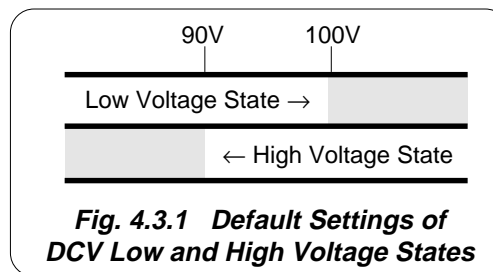

Fig. 4.3.1 Default Settings of DCV Low and High Voltage States
Each threshold value is related to the value set on the screen, including any Offset or Deviation. The default state boundaries are shown in *Fig. 4.3.1*. The values given in the figure translate to DC volts in DCV function, and RMS volts in ACV function.
1. **9100** Use the front panel controls to set the 9100 Output voltage to the UUT cal point value, entering High Voltage State if the cal point has been assigned to that state. The default High Voltage State boundaries are shown in *Fig. 4.3.1*.